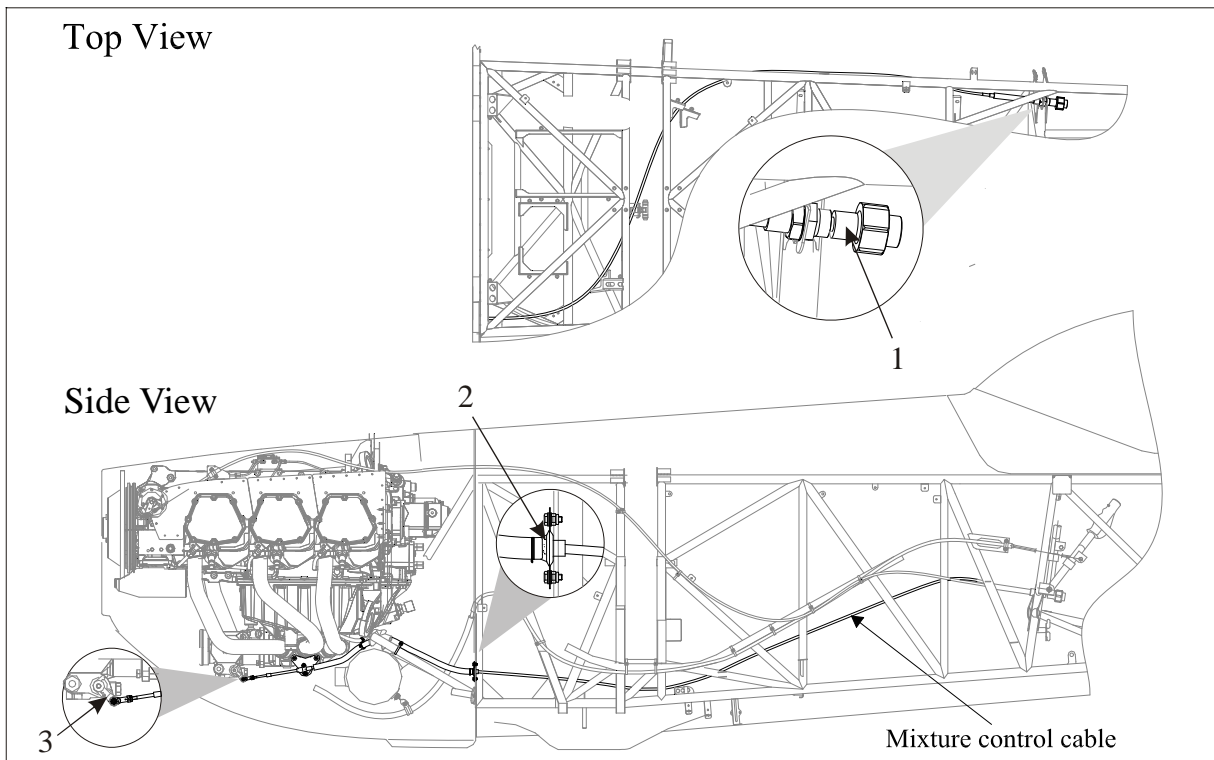
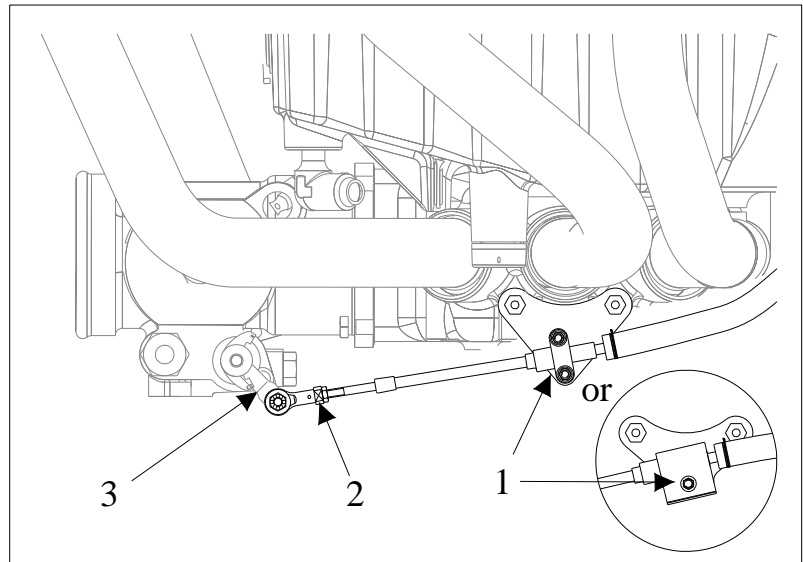

Figure 5
Figure 8 Mixture Control Cable Rigging
Refer to Figure 5. The mixture of the fuel injector servo is controlled by means of the mixture control cable located on the right side of the cockpit (red control knob). This cable is routed from the right side to the left side of the fuselage, penetrates the firewall and is then routed to the mixture actuator. In the engine compartment this cable is covered with a fire sleeve. The cable is attached to the fuselage using a clamp block at its front end and self-clinching plastic tiedown straps in the cabin area. The mixture vernier control unit is mounted to a fuselage bracket. The fire wall penetration is sealed with firewall sealant outlined in Chapter 51-30-04 and covered with a clamp sheet.
The mixture control cable is a Vernier type cable connecting the mixture control unit (1, Figure 5) with the mixture actuator (3).
- 5 Remove cotter pin, castle nut, washers and bolt from the rod end (2, Figure 8) to mixer control lever attachment (3).
- 6 Loosen counter nut and remove the rod end (2) from the mixture control cable.
- 8 Remove clamp block (1) attachment bolt.
- 9 Remove clamp block (1) from the vernier mixture control cable.
- 11 Remove 2 bolts of the clamp sheet attachment positioned at the firewall break through (2, Figure 5). Remove firewall sealing and disconnect clamp sheet and contained plastic guidance from the rear side of the firewall.
- 13 Remove attachment nut and washer of the mixture control unit (1, Figure 5).
Refer to Figure 5.
- 10 Install the mixture vernier control cable to the respective bracket by installing the clamp block (1, Figure 8) to the conduit fitting of the control cable.
- 11 Push the mixture actuator (3, Figure 8) to the full forward position.
- 4 If necessary adjust rod end (2, Figure 8) by the following steps:
- a Remove cotter pin, castle nut, washers and bolt from the rod end (2) to mixture actuator (3) attachment.
- b Loosen the counter nut and adjust rod end (2) by turning. Ensure thread is visible in the inspection hole when fastening. Apply inspection lacquer on the counter nut.
- c Reconnect the rod end (2) to the mixture actuator (3).